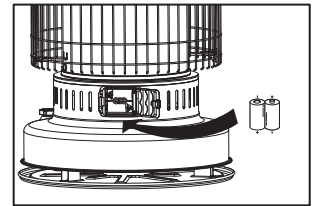

Fig.8
F) INSTALLEZ LES PILES. (Fig. 8)